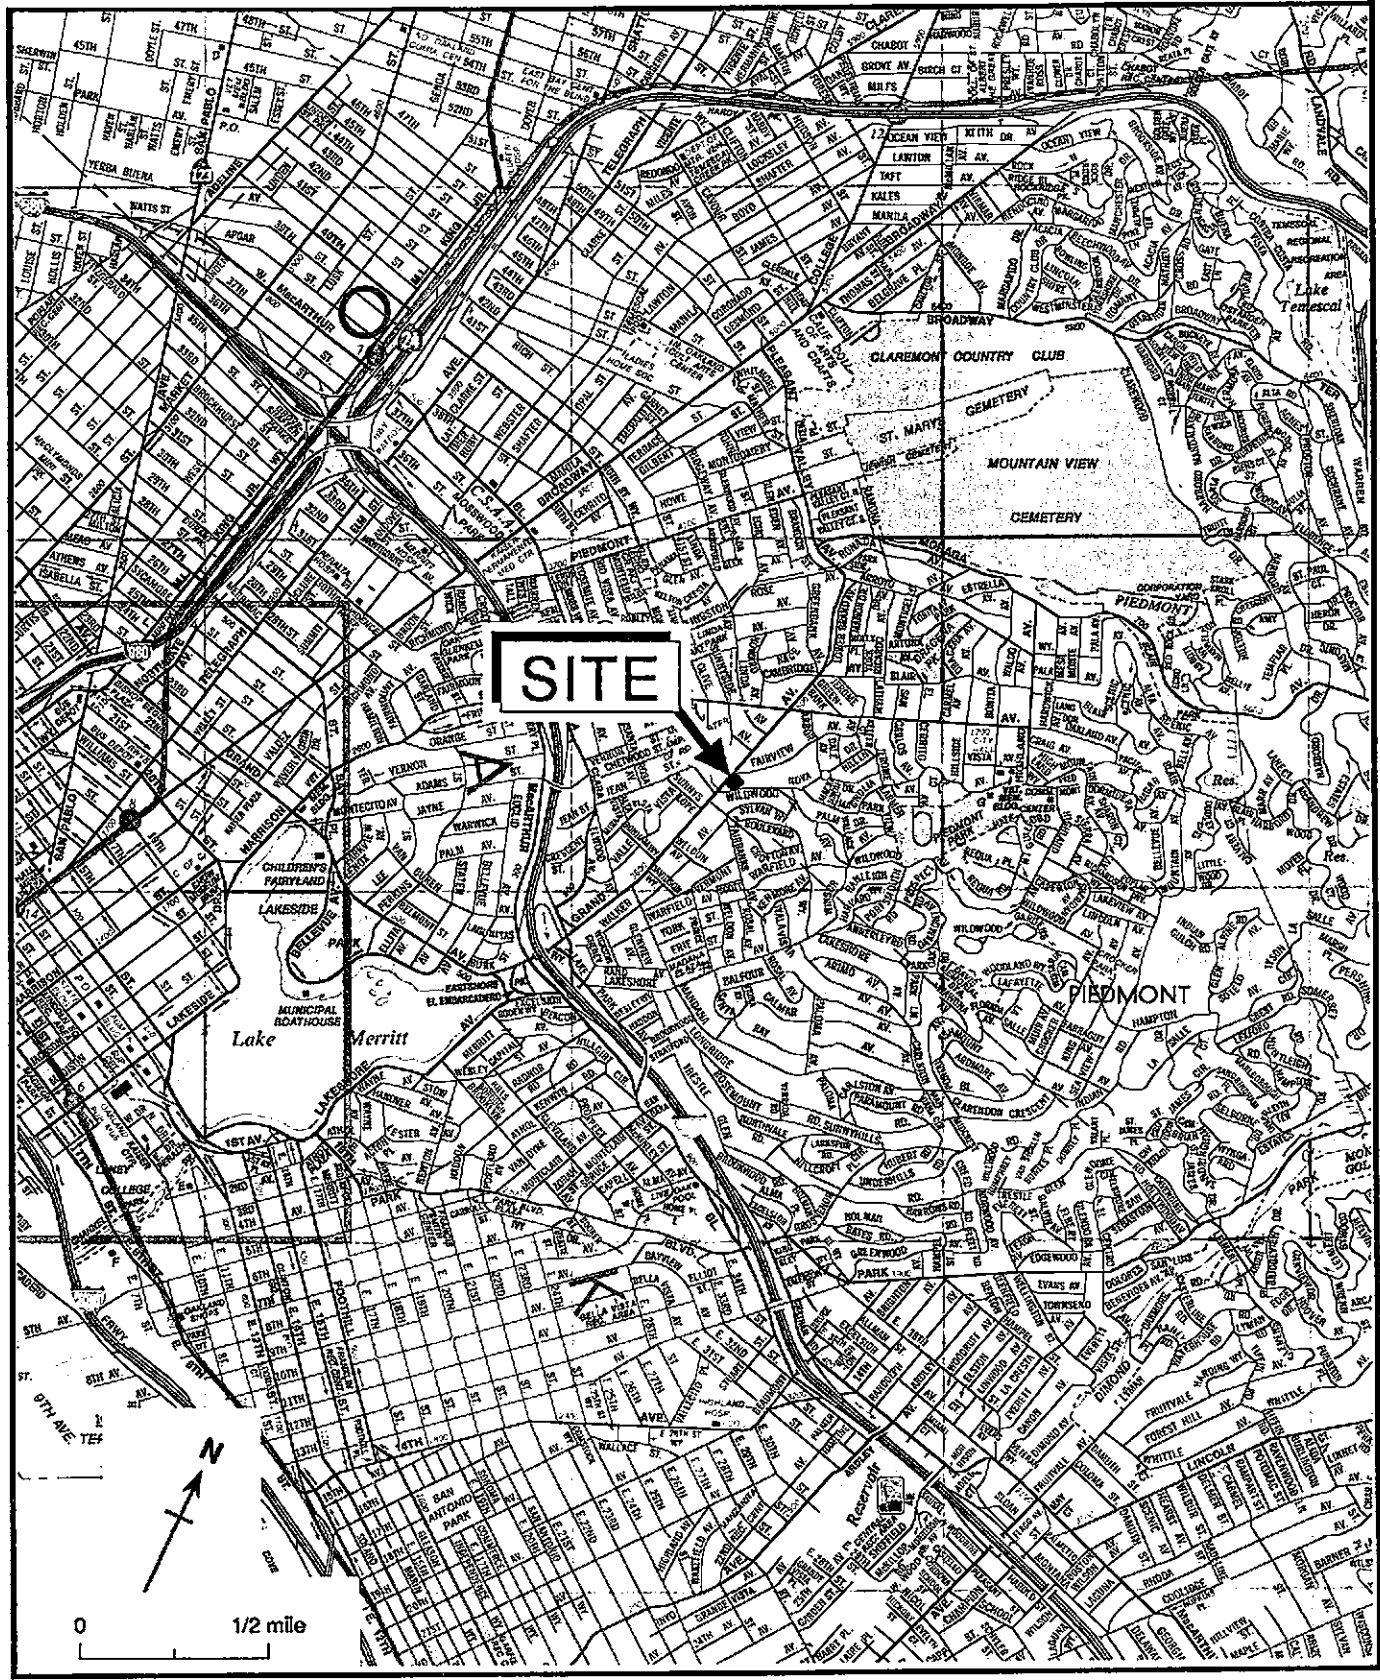

Figure 1. Site Location Map - Shell Service Station WIC #204-6001-0109, 29 Wildwood Avenue, Piedmont, California
This letter describes Weiss Associates' (WA) second quarter 1991 activities at the Shell service station referenced above (Figure 1.) This status report satisfies the quarterly reporting requirements prescribed by California Administrative Code Title 23 Waters, Chapter 3, Subchapter 16, Article 5, Section 265.d. Included below are: